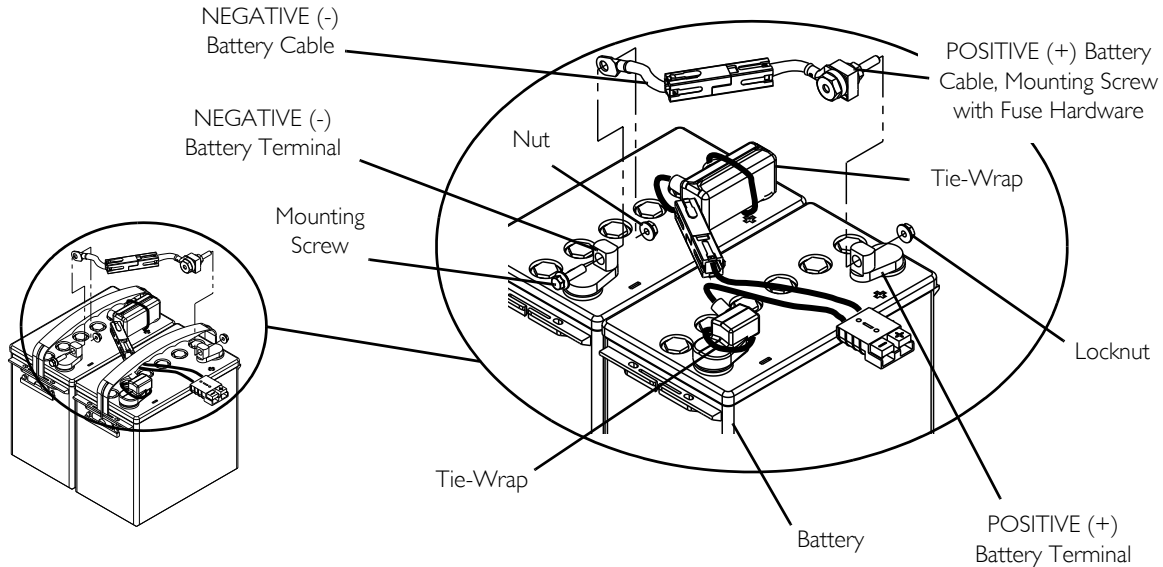

FIGURE 3 Replacing the Batteries and/or Battery Cables
For this procedure, refer to FIGURE 3 on page 91.
4. Remove the mounting screws and nuts that secure the POSITIVE (+) RED battery cable to the POSITIVE (+) battery terminal/post as shown in FIGURE 3.
5. Remove the mounting screws and nuts that secure the **NEGATIVE (-) BLACK** battery cable to the **NEGATIVE (-)** battery terminal/post as shown in **FIGURE 3**.
Battery terminal configuration as shown in Detail “A” of FIGURE 3 **MUST** be used. Batteries that have the terminal configuration reversed **MUST NOT** be used - otherwise serious injury or damage may occur.
When connecting the battery cables to the battery, the battery cables **MUST** be connected to the battery terminals, as shown in FIGURE 3, otherwise damage to the battery cable may result when installing battery terminal caps.
3. Using the mounting screws and nuts, secure the NEGATIVE (-) BLACK battery cable to NEGATIVE (-) battery terminal/post as shown in FIGURE 3.
4. Using the mounting screws and nuts, secure the POSITIVE (+) RED battery cable to POSITIVE (+) battery terminal/post as shown in FIGURE 3.
8. Using new tie-wraps, secure the terminal covers to the battery terminals as shown in FIGURE 3.